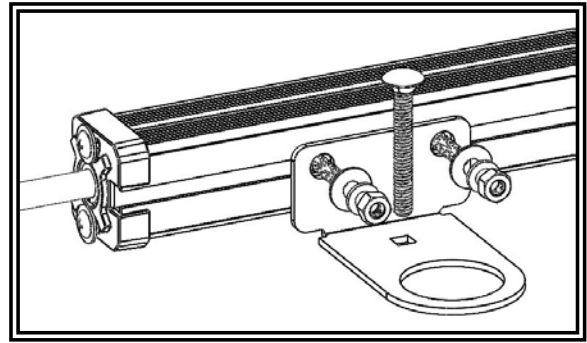

FIGURE 2
1. Loosely assemble the mounting brackets into the rear channel as shown in FIGURE 2 using the included hardware. Note: Carriage bolt is customer supplied, use of a stainless steel carriage bolt is advised to prevent corrosion.